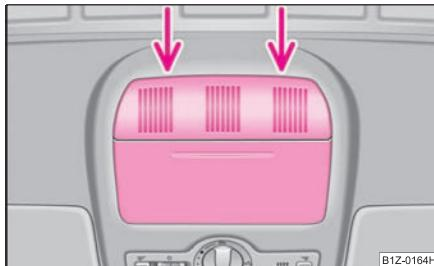

Fig. 38 Detail of the headliner:
- Pull the cover down ⇒ fig. 38.